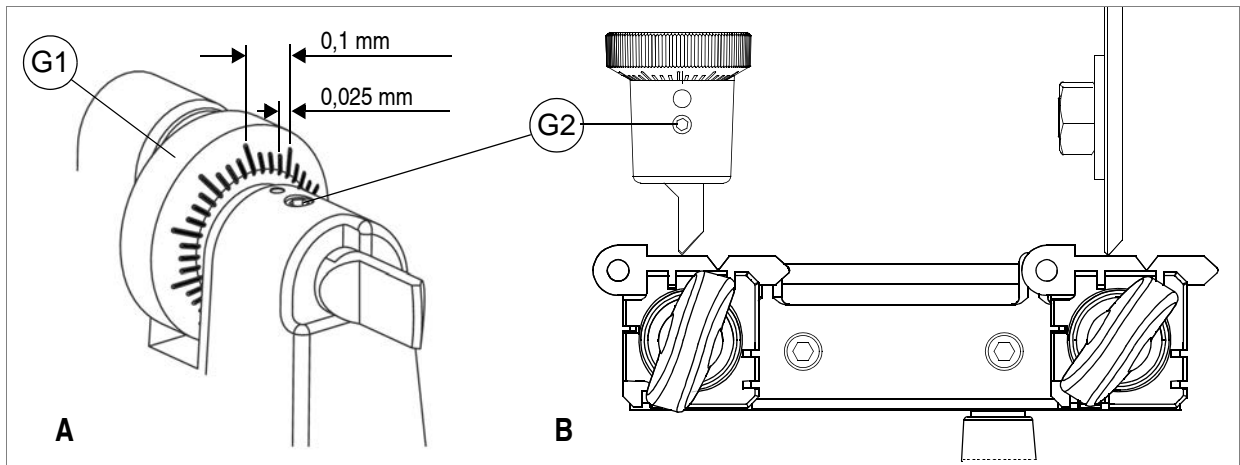
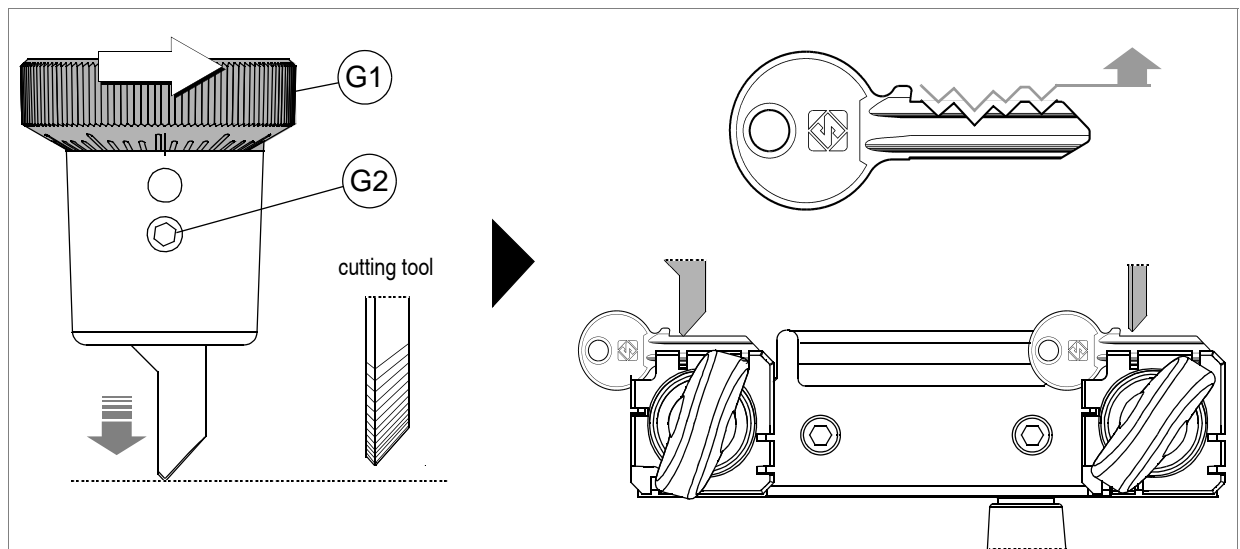

Fig. 17
Fig. 18
- 6) Raise the carriage and take up to the cutting tool (fig. 17).
- b) turn the ring nut (G1) clockwise to advance the tracer point (fig. 17 and fig. 18).
ATTENTION: each notch on the centesimal ring corresponds to 0,025 mm (fig. 17).